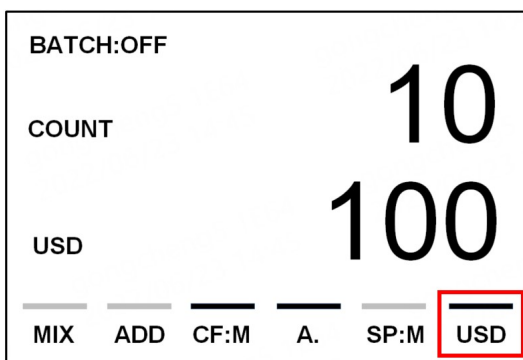

Figure 22
2) Example: Put a stack of dollars into a machine to count. The machine interface shows the end of counting as shown in Figure 22 below. The "USD" character appears in the lower right corner of the display screen.